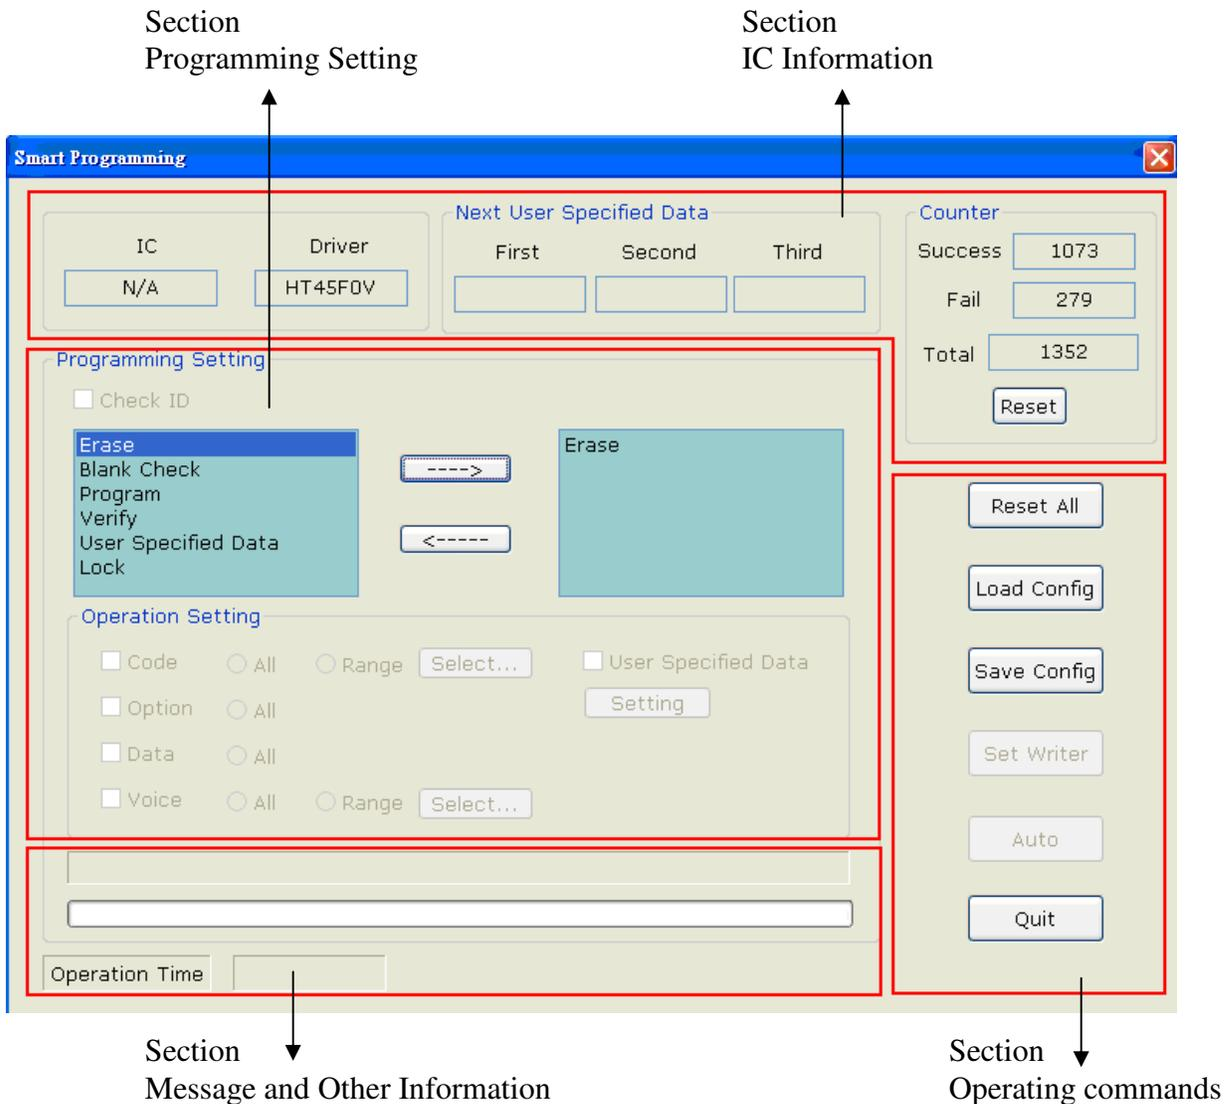

Fig. 4-1
Smart Programming is an advanced function allowing multiple programming operations. Relative to the basic functions in the HOPE3000 Main UI, which is to conduct programming operations for an entire device using a PC, smart programming can implement the three main functions “Auto Programming”, “Partial Programming” and “Programming User Specified Data”. The user can choose On-Line Programming, which controls the writer using a PC, or Off-Line Programming, which allows the writer to be controlled independently with only a power adapter connection. The Smart Programming UI is divided into four main sections as shown in Fig 4-1.
(A) Data Setting - the left part in Fig. 4-1